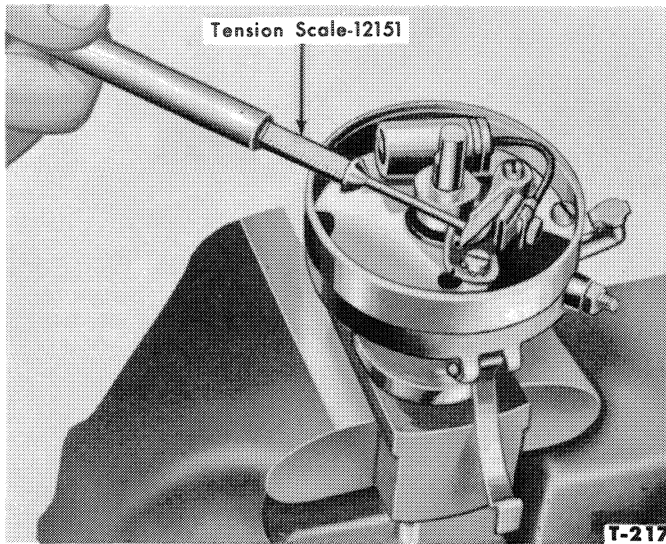

Figure 12—Checking Breaker Point Tension
9. Check the tension on the new set of breaker points with Tension Scale 12151 (0-32 oz.) as shown in Figure 12. If necessary, loosen the nut and slide the spring toward the pivot to increase the tension or away from it to decrease the tension. The correct tension is 17-20 oz.